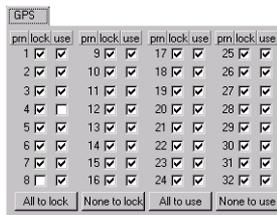

Figure 3-25. GPS Tab
- The first tab, as its name implies, deals with the GPS satellites (Figure 3-25).
lock	Checkmarks in this column indicate that the corresponding satellites are enabled for tracking. As shown in Figure 3-25, GPS satellite PRN 8 is disabled for tracking.
use	Checkmarks in this column indicate that the corresponding satellites are enabled for position computation. In Figure 3-25, GPS satellite PRN 4 is disabled for position computation.